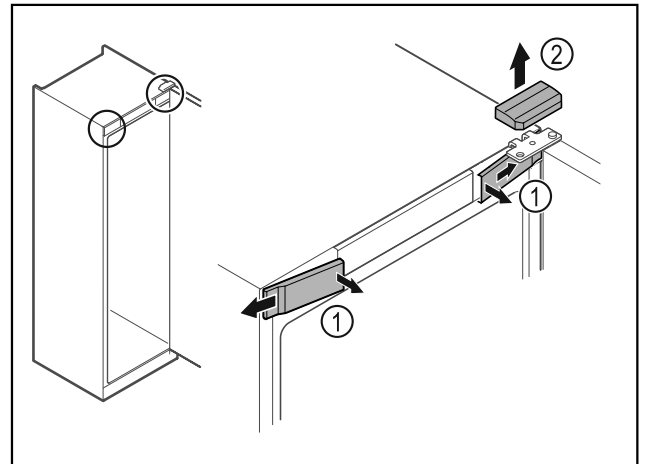

Fig. 10
- ▶ Unlatch the front covers Fig. 10 (1) on the inside and remove them sideways.
- ▶ Lift off the upper cover Fig. 10 (2).